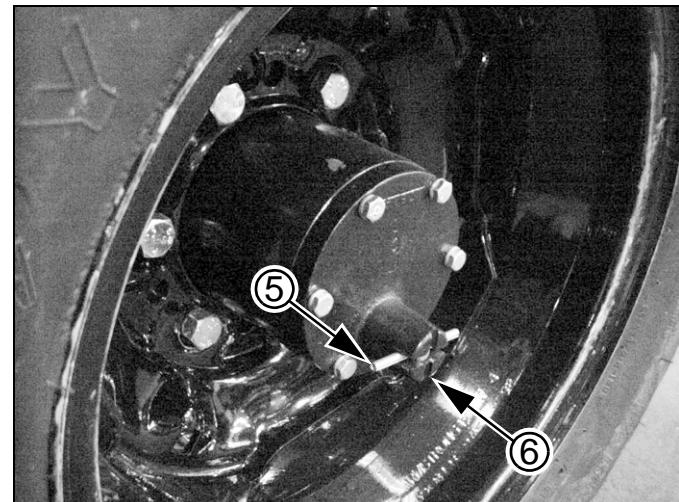
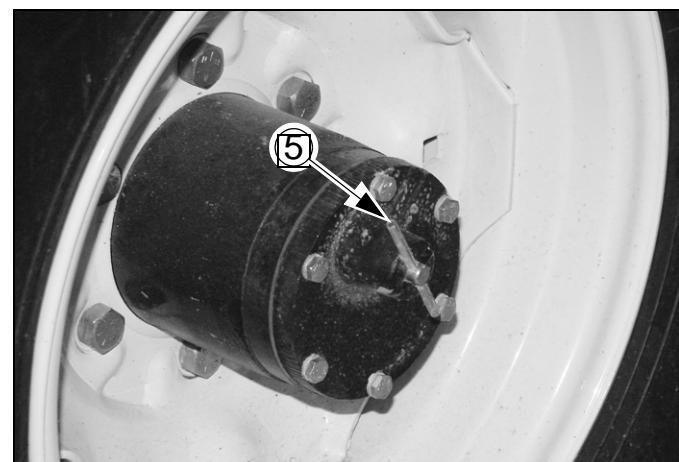

Figure 17
Figure 18
**Disengage Lock-Out Hub***Refer to Figure 17 and Figure 18*
6. At lock-out on left hub, pull pin ⑤ away from wheel and rest in outer shallow detents ⑥. This disengages the hub from the drive train and prevents excessive wear of drive system during transport.